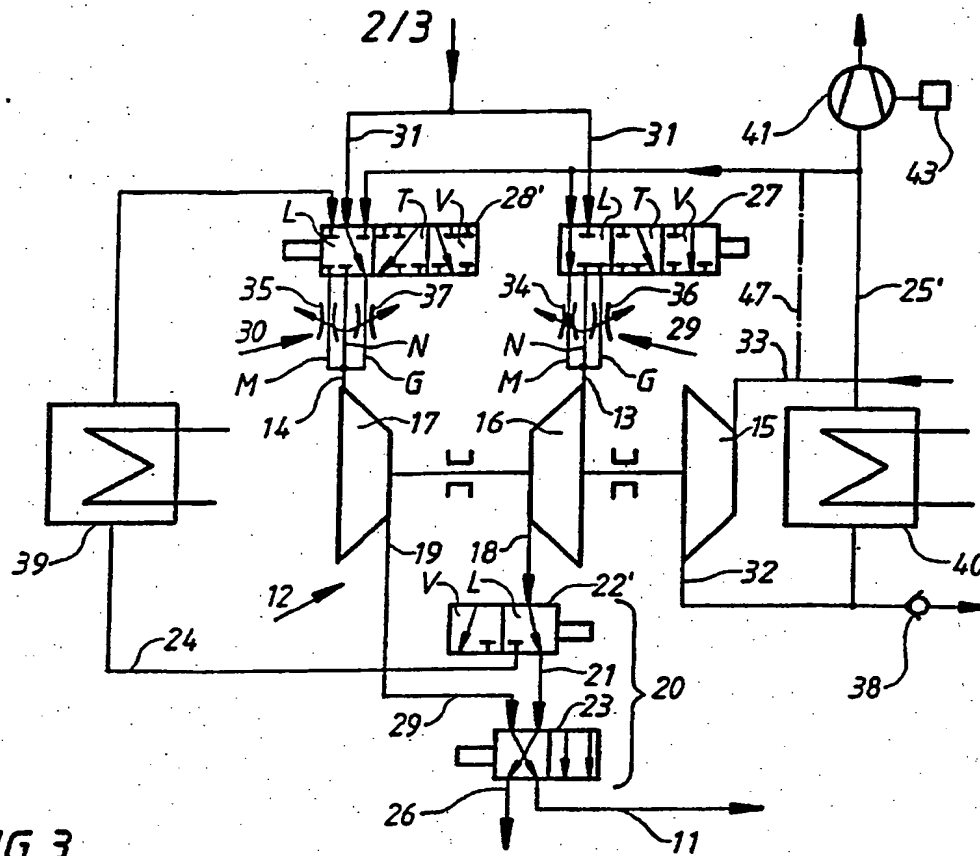

FIG. 3
(54) Turbocharging assembly with controllable air-charge compressors for an internal-combustion engine
(57) Air-charge compressors (16, 17) are in permanent driving connection with an exhaust-driven turbine (15) which cannot be cut out during operating periods of the internal-combustion engine. The control of the operating condition (no-load delivery or delivery operation) of each air-charge compressor (16, 17) is effected by a change-over device (20) controlling the pressure connection. To improve the efficiency of the turbocharging assembly (12) the power absorption of whichever air-charge compressor (16, 17) has just been adjusted to no-load delivery is minimised by controlling the fluid mass throughput of (for example) "recirculated" air or turbine exhaust gas (eg. Figs. 3, 4) through that compressor. Devices (29, 30) of the compressors (16, 17) enable the direction of air flow to the rotors to be controlled to impart one of counter-swirl, no-swirl or co-swirl to the air entering the rotor.